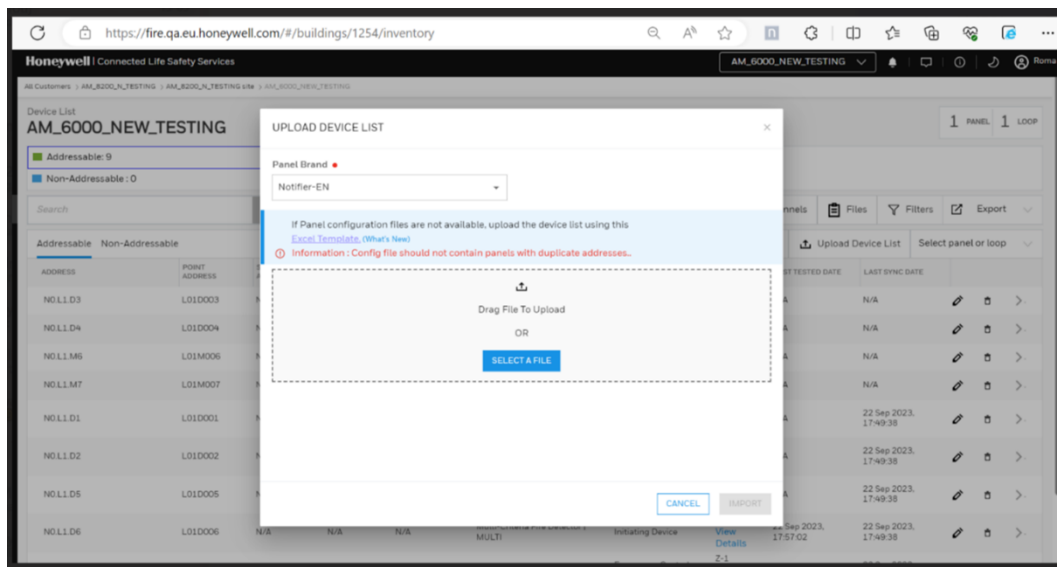

Figure C-77: Configuration File Upload to CLSS
- Now from the configuration export folder shows all the details of the panel set up with devices attached to it. Select the XML format of the configuration file and upload that to CLSS as shown in Figure C-77: Configuration File Upload to CLSS